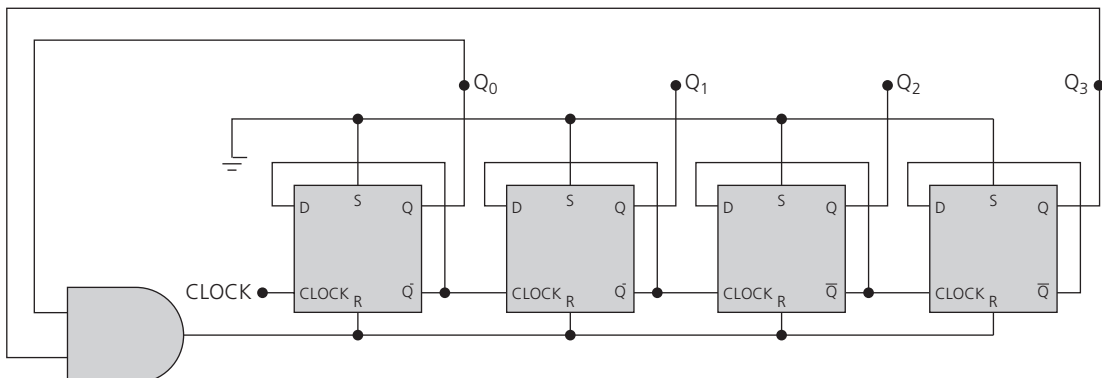

Figure 19 A BCD counter
from 0 to 9 and then resets. It therefore goes through a sequence of ten states when it is clocked and returns to 0 on the binary count of 1001 (decimal 9). Four D-type flips flops are connected, as shown in Figure 19.
- Explain, referring to Figure 19 and your table in part a, how outputs  $Q_0$  and  $Q_3$  can be used to reset the counter to zero with the AND gate.